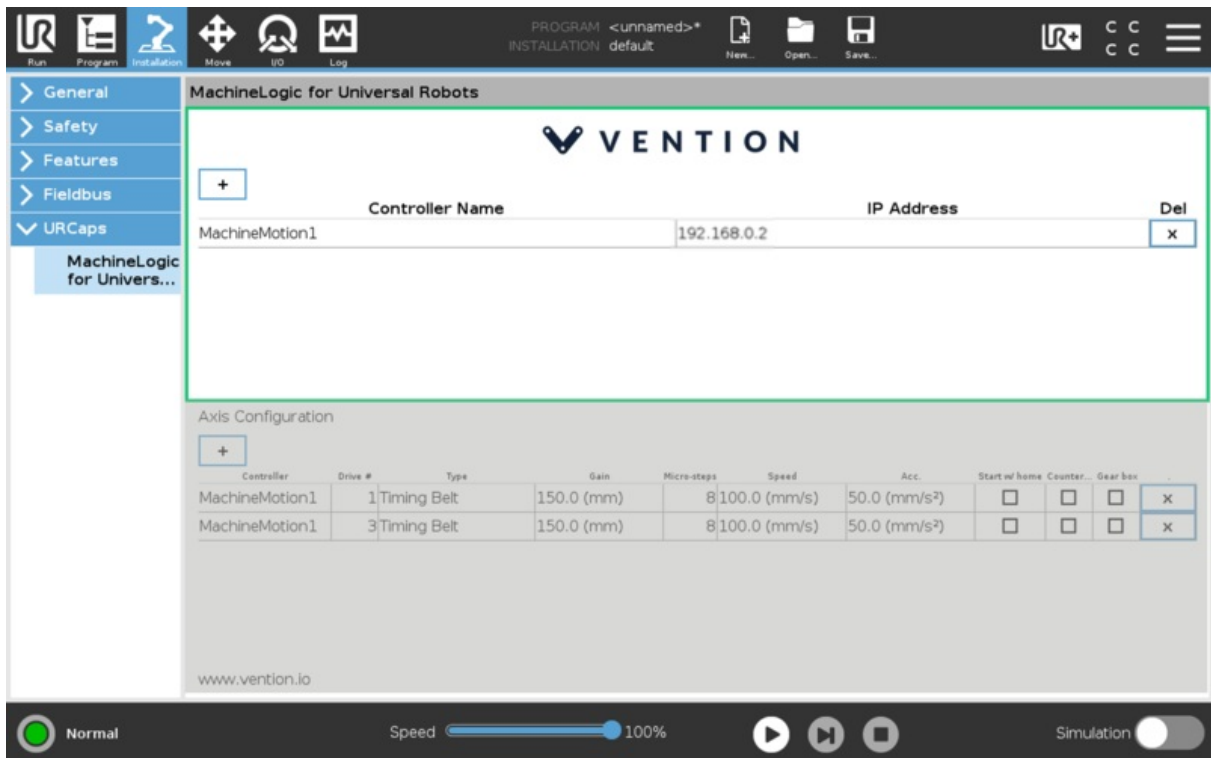

Figure 15: Upper window of the Vention URcap configuration screen
The upper window of the Vention URcap is used to define a MachineMotion controller instance (see Figure 15). Note that multi-controller systems can be created by adding more than one controller. To add a controller, select the + icon.
- **IP Address:** IP address of the MachineMotion controller. In Figure 15, IP address **192.168.0.2** is used for the MachineMotion controller